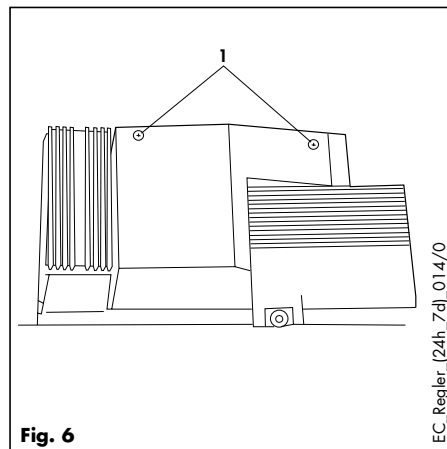

Fig. 6
- Remove back of control box by undoing two screws (1, fig. 6).